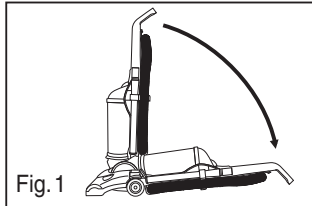
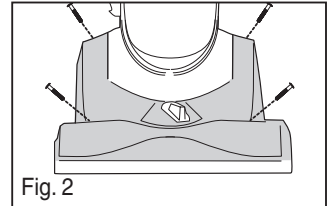
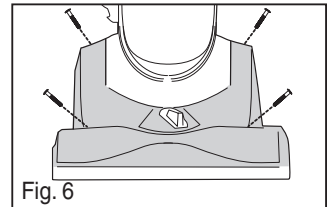

Fig. 1
Fig. 2
Fig. 6
Turn air path selector knob to 'TOOLS' (Fig. 1).
- Pull handle to release hose (Fig. 2).
- Press button to reinsert wand into hose (Fig. 6).
- Pull handle to release hose (Fig. 1).
- Grasp hose collar and twist to unlock. Remove hose from vacuum body (Fig. 2). Flexing the hose will loosen blockage.
- To reinstall hose, align tabs with notches and set into base (Fig. 6). Twist collar to lock (Fig. 2). Reinsert wand fully into hose; snap into clip at top (Fig. 1).
- Step on handle release to lower handle flat onto floor (Fig.1).
- Remove 4 screws from brush roll cover. (Fig. 2).
- Replace 4 screws (Fig. 6).